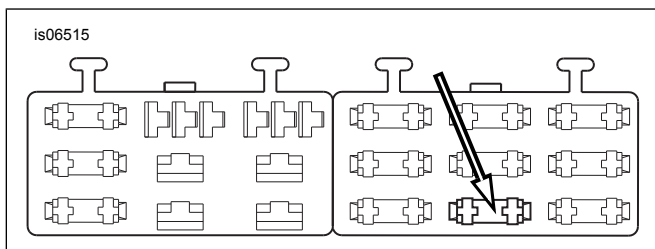

Figure 6. "OPEN" Fuse Block Cavity (2004 and Later Dyna)
4. See Figure 6. Locate the fuse cavity (1) labeled "OPEN" on the electrical caddy. There is a terminal in only one side of this cavity. From the back side, insert the terminal on the orange/white adapter wire into the open side of the cavity until it stops. Refer to a nearby factory-installed terminal for comparison to verify proper orientation and depth.